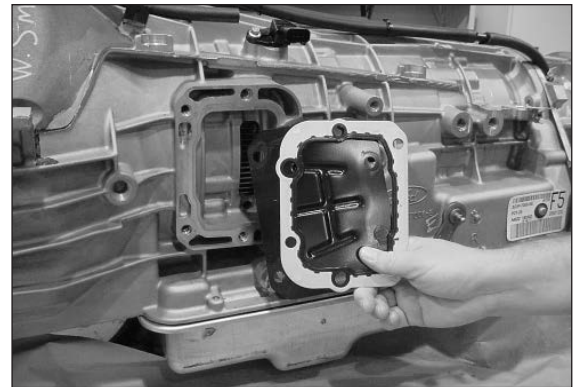

Figure 71
- Remove the PTO aperture cover plate and gasket (**Fig. 71**).